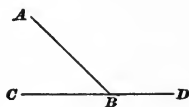

FIG. 7.
**25.** If one straight line meets another straight line at a point between its ends, as in Fig. 7, two angles,  $ABC$  and  $ABD$ , are formed, which are called **adjacent angles**.